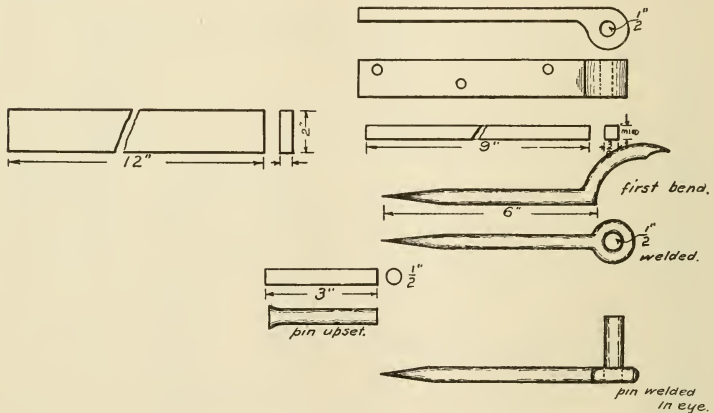

FIG. 214.—HINGE FOR FARM GATE.
1. For each hinge of the farm gate three pieces of iron are needed. The dimensions of each piece are given in Fig. 214. Bend the end of each flat piece around, making a lap weld so as to leave a $\frac{1}{2}$ " hole at